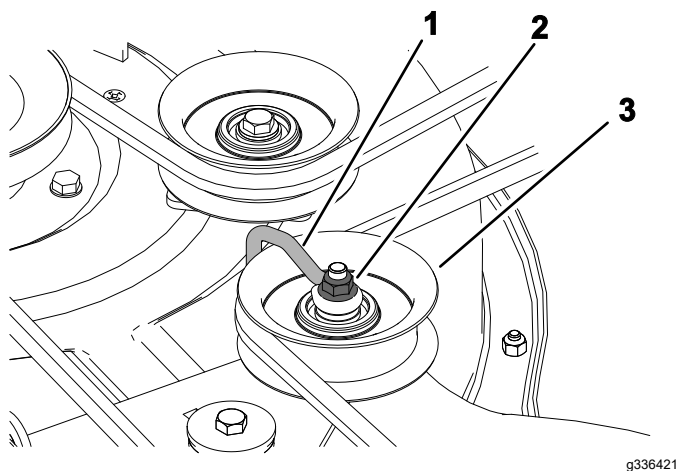

Figure 56
6. For decks with 3 blades, loosen the nut securing the wire form to the idler pulley (Figure 56).
Note: Position the wireform against the idler arm as shown in Figure 56.